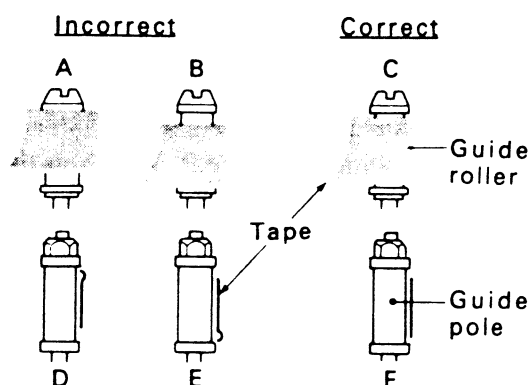
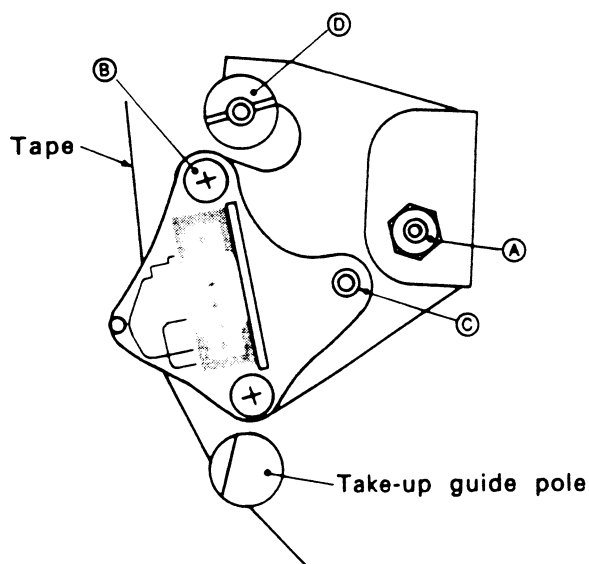

Fig.6-3 Guide roller and guide pole
Fig.6-7 Take-up guide pole
- During loading, play and unloading, observe the tape at the supply guide rollers and poles, and takeup guide rollers. Confirm absence of curling, wrinkling, etc., as shown in Fig.6-3.
- Turn Audio/CTL Head screw © as shown in Fig.6-7 and adjust for smooth transport at the take-up guide pole as shown by F of Fig.6-3.